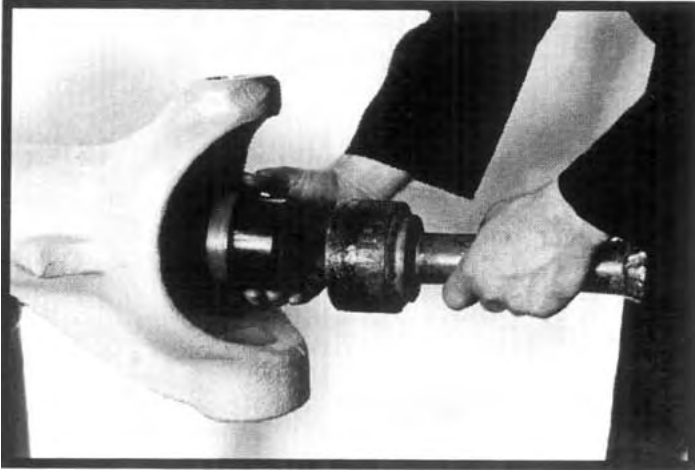

Figure 15
1. If the inner axle seal has been removed, smear grease on the inner bushing surface of the replacement part and apply a thin bead of Loctite #515 or equivalent to the outer surface. Drive it into the suspension yoke until it seats squarely against the shoulder of the bore. See Figure 15.